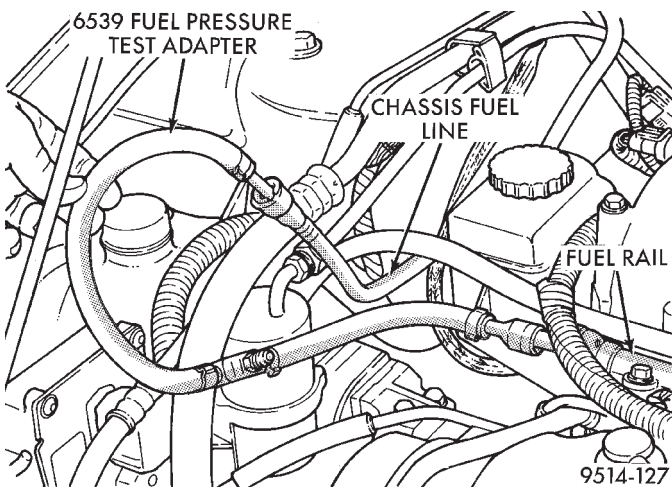

Fig. 6 Fuel Pressure Test Adapter
- (1) Perform fuel system pressure release procedure.
- (2) Remove fuel supply hose quick connector from the chassis line (at the engine). Refer to Quick Connect Fittings in this section.
- (3) Connect Fuel Pressure Gauge C-4799 to Fuel Pressure Test Adapter 6539 (Fig. 6). Install the adapter between fuel supply hose and chassis fuel line assembly.